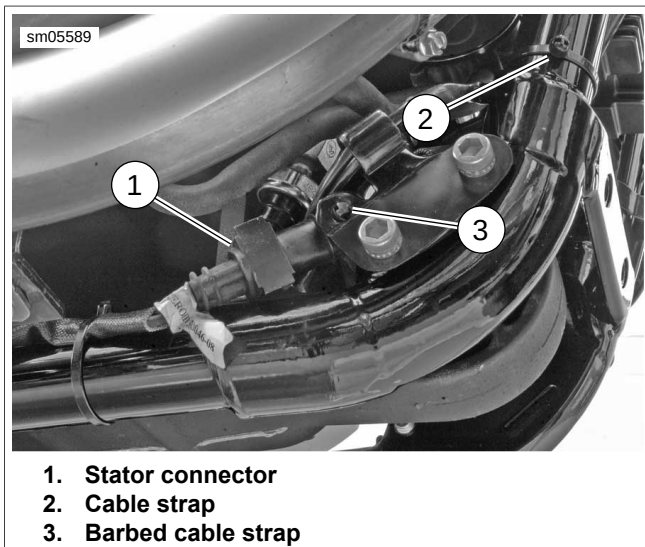
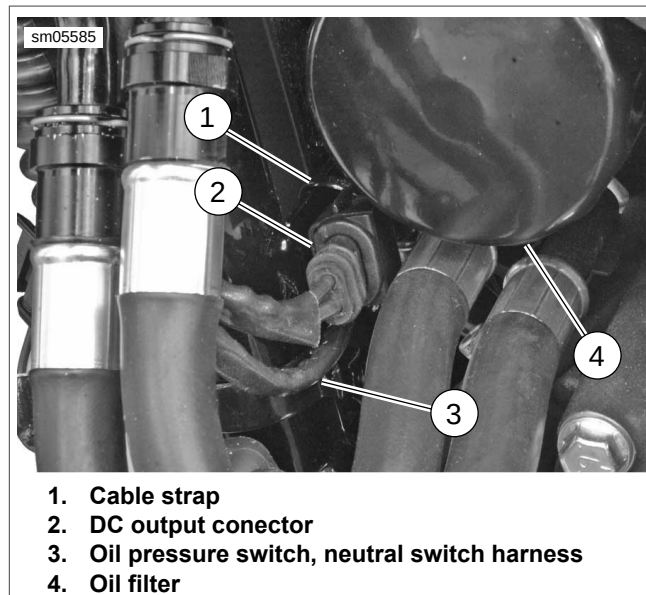

Figure 6-96. Stator Connector: XR 1200X
Figure 6-97. DC Output Connector: XR 1200X
5. See Figure 6-96. Connect stator connector (1) and fold external latch over and lock in place. Secure stator connector to bracket with barbed cable strap (3).
6. Secure stator wires to right frame down tube with cable strap (2).
7. See Figure 6-97. Connect voltage regulator DC output connector. Fold external latch over and lock in place.
8. Secure DC output connector (2) along with oil pressure switch, neutral switch harness (3) to voltage regulator bracket with cable strap (1).